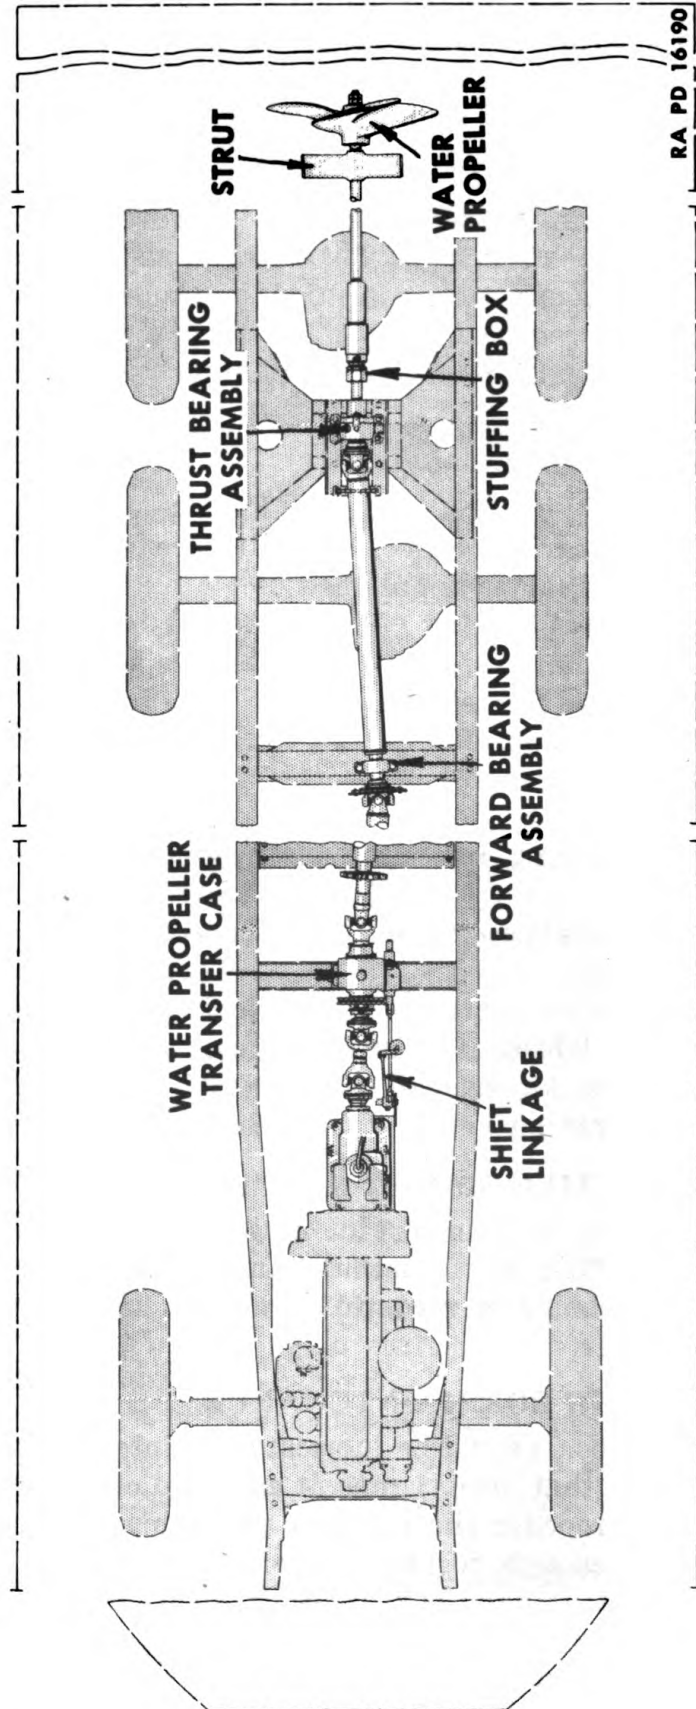

Figure 164—Water Propeller and Drive Installation
a. Water propeller and drive includes water propeller transfer case, propeller shafts, thrust bearing at rear axle trunnion cross-member, stuffing box, strut bearing, and water propeller. Location of the various units is shown in Fig. 164.